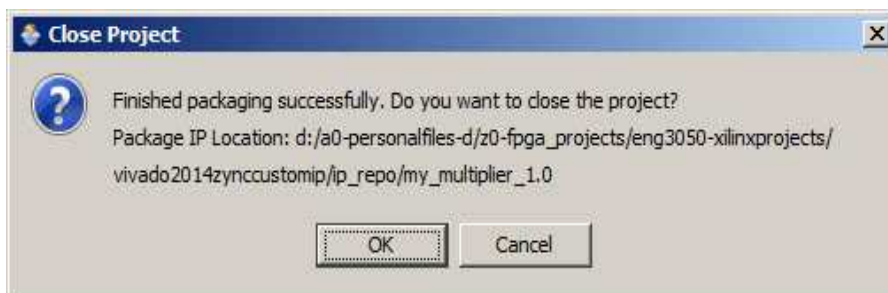

Figure 28: Close the Project
13. A final window will appear as seen in **Figure 28**. Press “OK”